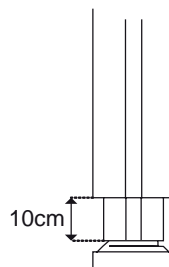

Fig. 4-133 Recommended highest limit
*We recommend the upper limit, **not** to be higher than when the inner segment of the column is 10 cm from the outer segment. See Fig. 4-133 Recommended highest limit.*